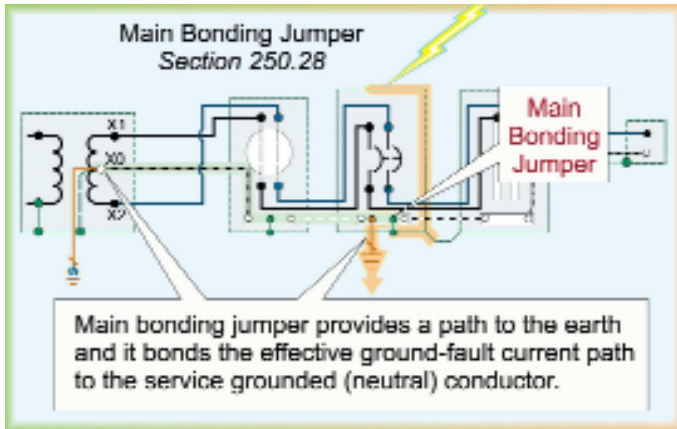

Figure 250-68
**AUTHOR'S COMMENT:** The main bonding jumper serves two very important needs. First, it establishes a connection between the equipment enclosure and the earth through the grounding electrode conductor to dissipate lightning and other high-voltage surges [250.4(A)(2)]. Secondly, it establishes a connection between the effective ground-fault current path and the service grounded (neutral) conductor to clear a ground fault. Figure 250-68